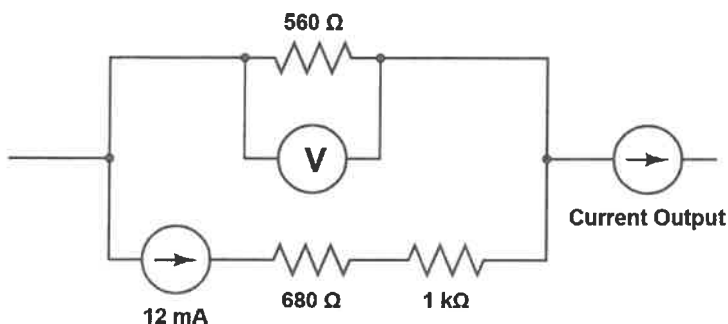

Figure 6: Circuit diagram of a resistor network.
Figure 6 is a resistor network.
a) Calculate the total equivalent resistance of Figure 6.